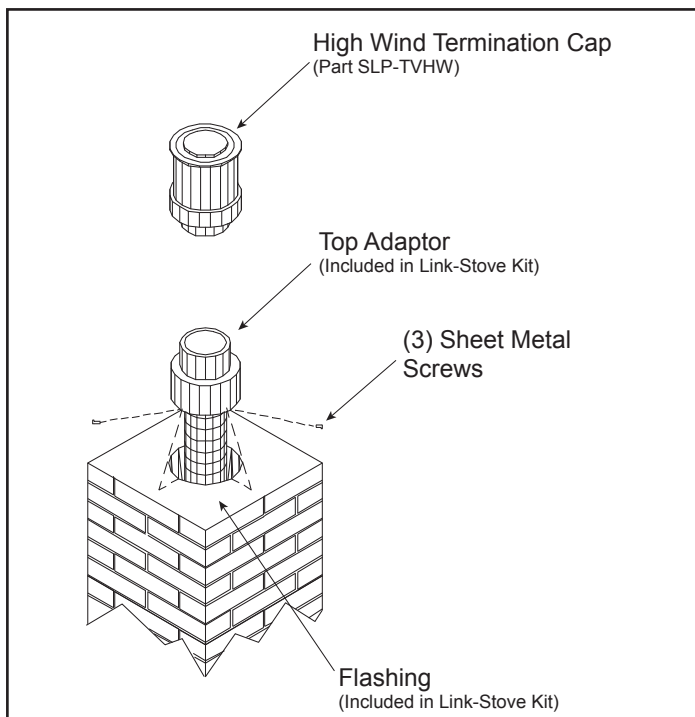

Figure 4.28
8. Secure the top adapter to the flashing. Use three sheet metal screws through the side of the top adapter into the flange on the flashing, Figure 4.28. Twist lock the high wind termination cap on to the top adapter.